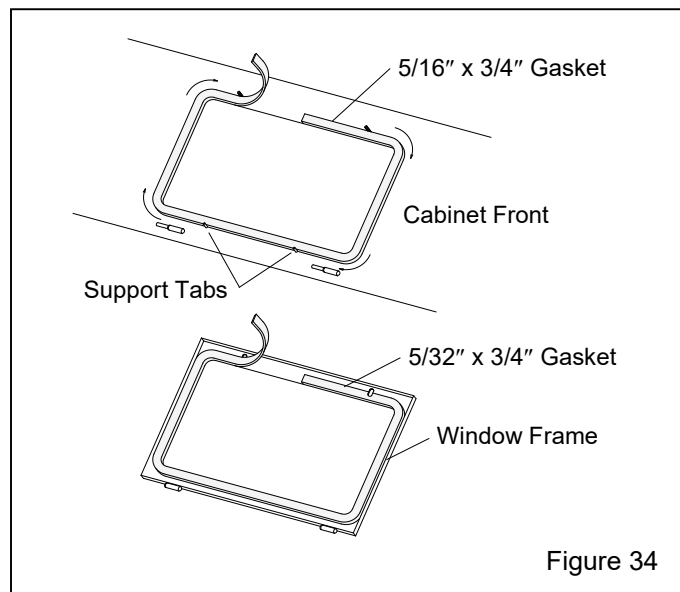

Figure 34
7.6 Window-Gasket Replacement – Figure 34
7.6.4 Peel a short section of adhesive backing from the 5/16"-thick strip gasket and adhere the gasket to the center of the top edge of the window opening, as shown in Figure 34. Peel additional backing as needed and work the strip around the radius of each corner, pressing it firmly to bond. Trim the gasket to fit and compress the ends to seal.